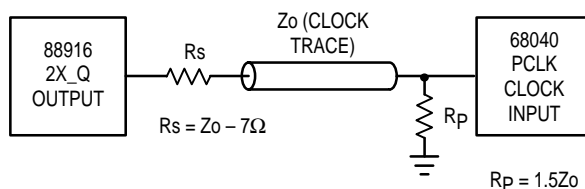

Figure 3. MC68040 PCLK Input Termination Scheme
- 3. The pulse width spec for the Q and 2Q_X outputs is referenced to a V_{CC}/2 threshold. To translate this down to a 1.5V reference with the same pulse width tolerance, the termination scheme pictured in Figure 3 must be used. This termination scheme is required to drive the PCLK input of the 68040 microprocessor with the 88916 outputs.